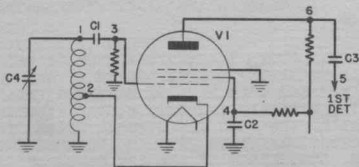

Figure 4.3 - Oscillator Section
**4.3 OSCILLATOR SECTION - Figure 4.3**